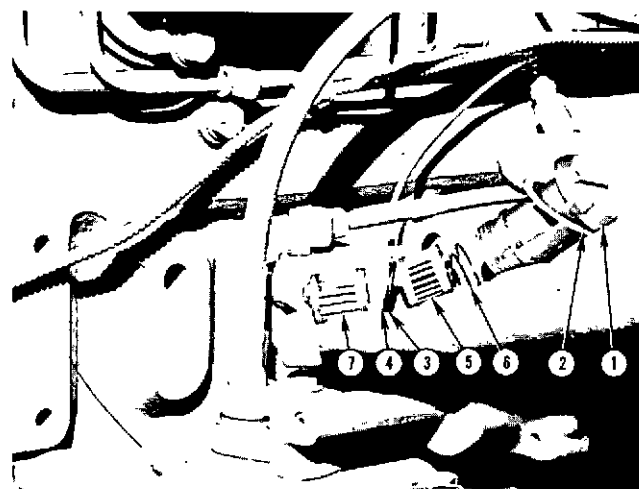

Fig. 2-44 (N11940) Fuel pump screen for MVS governor
1. Remove filter cap (1, Fig. 2-44) and dynaseal (2) from governor housing.
2. Remove "O" ring retainer (3), "O" ring (4), screen (5) and spring (6) from filter cap.
3. Using a screwdriver or wire hook, remove bottom screen and magnet assembly (7) from fuel pump housing. Remove screen retainer.